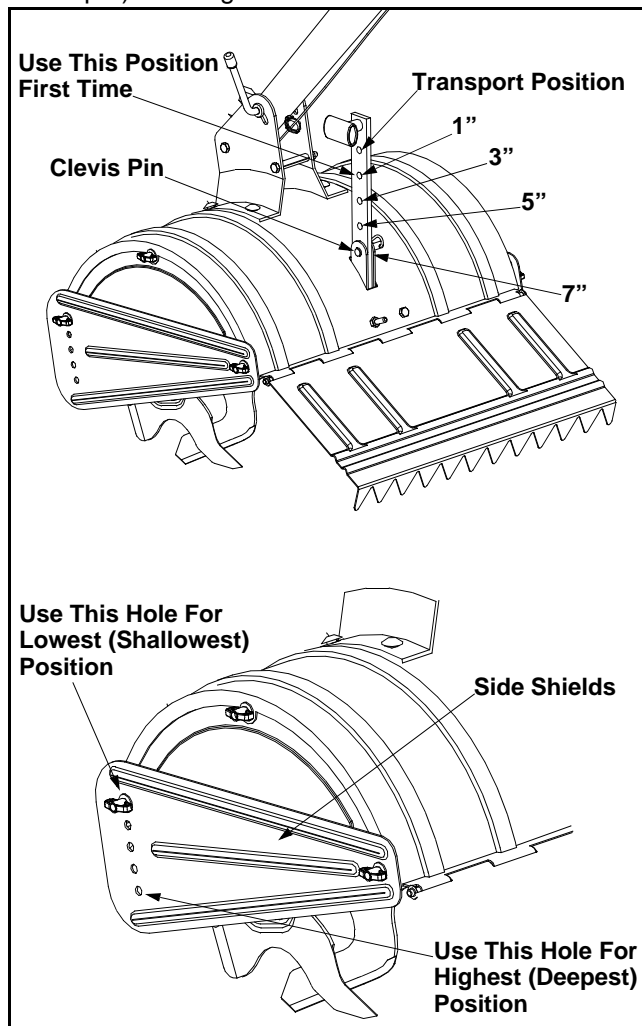

Figure 7
- When using the tiller for the first time, use the second adjustment hole from the top (1" of tilling depth). See Figure 7.
To adjust the depth stake, remove the clevis pin and hairpin clip. Move the depth stake to the desired setting and secure with the clevis pin and hairpin clip. See Figure 7.